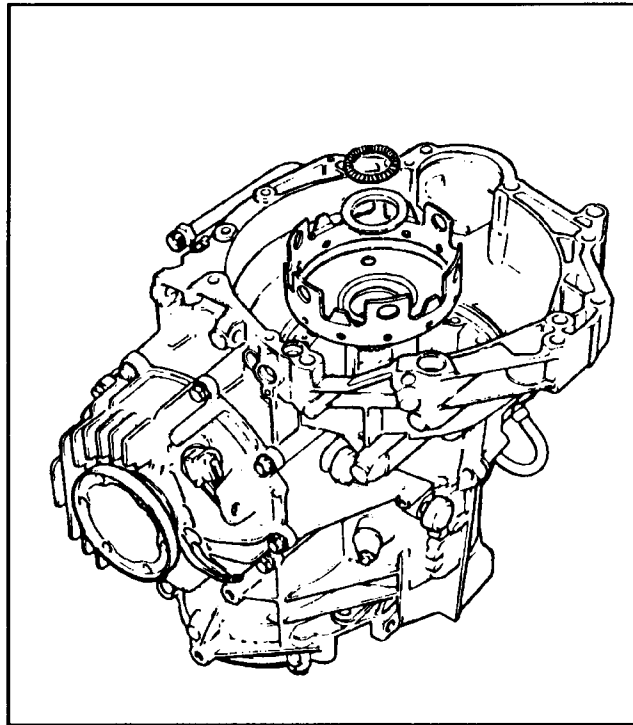

Figure 65
17. Remove the torrrington bearing and the race for the drive shell, then remove the drive shell (See Figure 65).